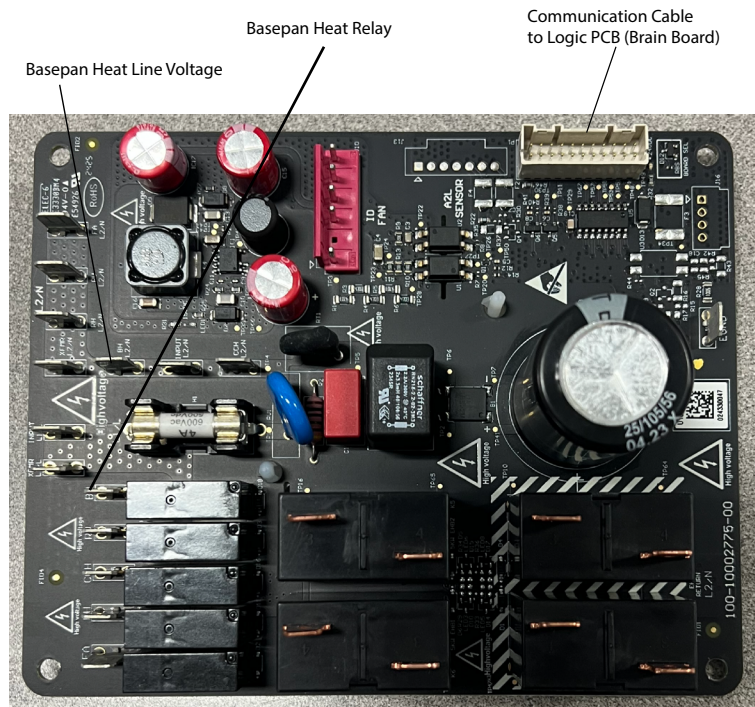

Figure 441 (Relay PCB)
1. Check for line voltage at Relay PCB. See figure 441.